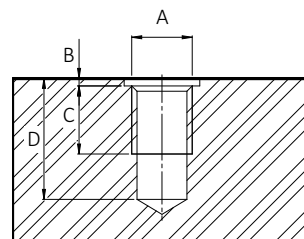

Figure 57: Mounting threads for Industrial Design models
1. Mount the camera to the base using suitable M4 screws at 2.7 Nm maximum torque for a thread engagement (C) of 6 mm between screws and mounting threads, see Figure 57. For details, see your model's technical drawings.